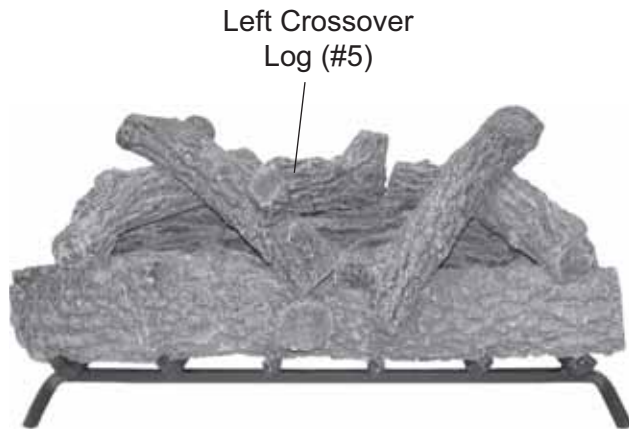

Figure 64 - Placing Left Crossover Log (#5)
7. Place Left Crossover Log #5 on Log #2 and Log #5. *See Figure 64.*
8. Place Right Crossover Log #5 on Log #3 and Log #5. *See Figure 64 .*